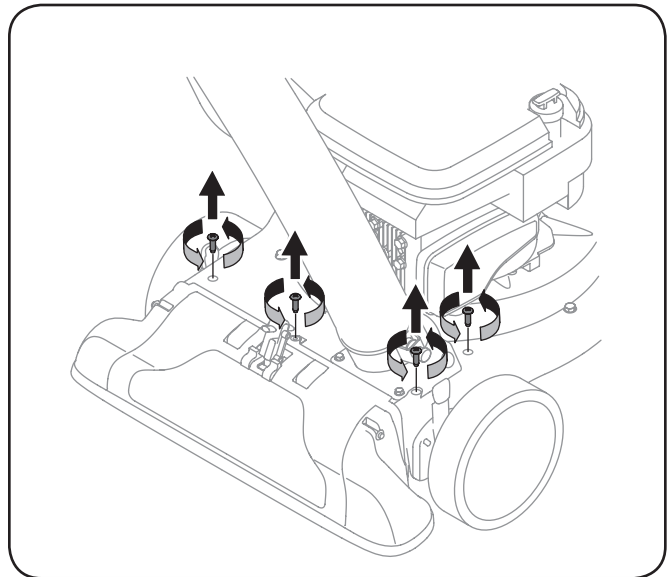

Figure 7-3
6. Remove the four screws on the upper housing that secure the nozzle cover. See Figure 7-3.